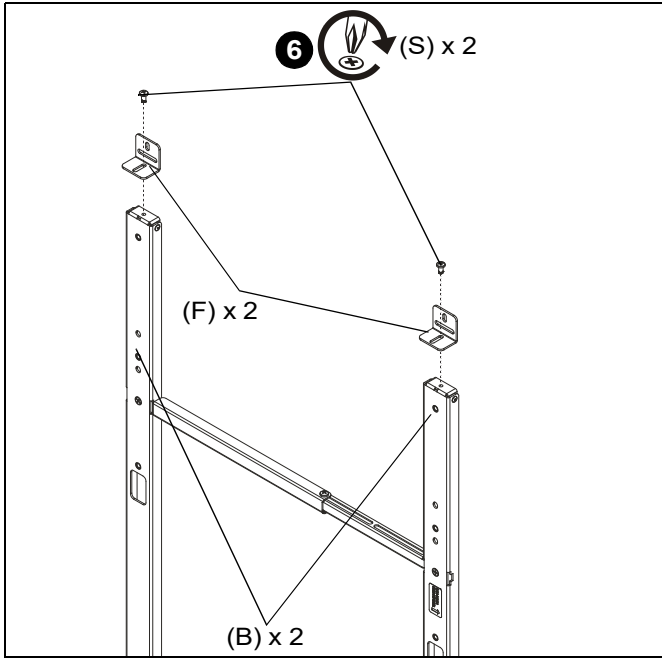

Figure 3
- Use two 1/4-20 x 1/2" button head cap screws (S) to secure two wall brackets (F) to top uprights (B). (See Figure 3)